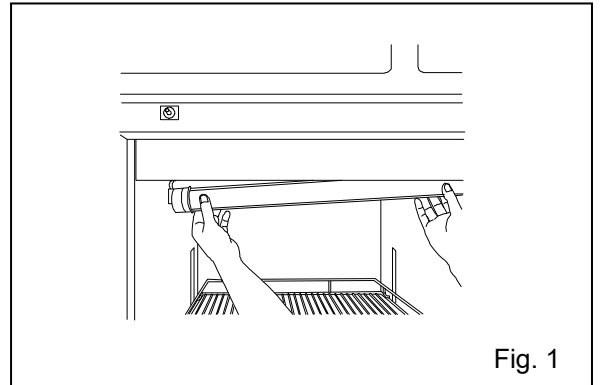

Fig. 1
Follow the procedure below when replacing a fluorescent lamp. The fluorescent lamp is located horizontally at upper front of the cabinet [Fig. 1].
3. Pull the fluorescent lamp downwards from the stopper together with the lamp cover and wiring [Fig. 1].